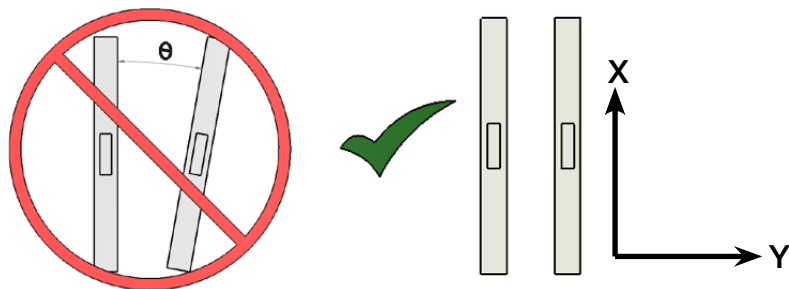

Figure 8: (Left) Angular misalignment; (Right) Proper alignment.
2. Are the actuators mounted at a consistent distance apart from each other from one end to the other? Misalignment in this plane will apply an unfavorable side load in the Fy-axis on the bearing system and if severe, may cause the units to bind. (See figure 8.)